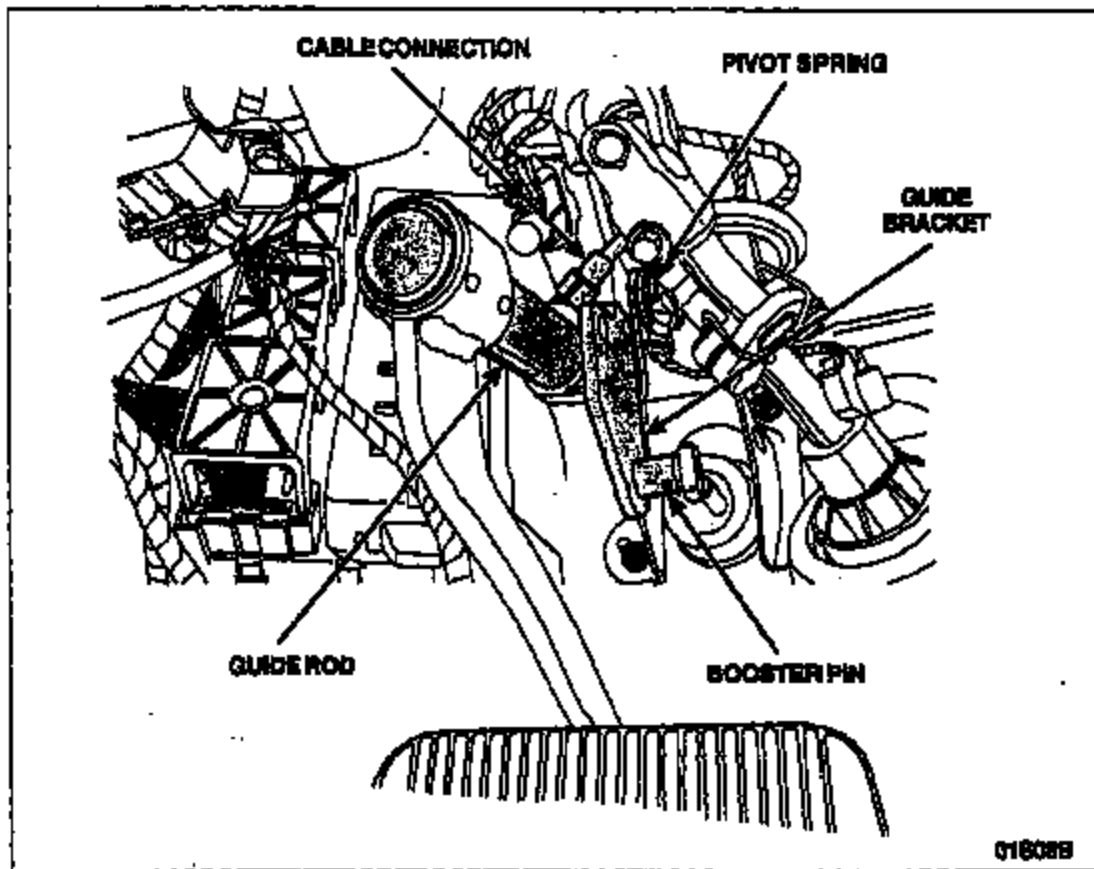

FIGURE 2
5. NOTE: Do not use solvents when removing the lubricating grease from the brake pedal assembly. Use a shop cloth to remove any lubricating grease from the outer surfaces of the following brake pedal assembly components. See Figure 2.